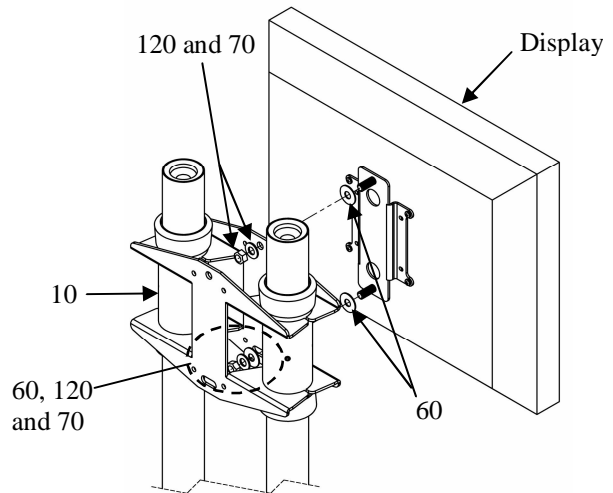

Figure 5. Mount Display
1. Place two flat nylon washers (60) over the two threaded studs on the adapter bracket (20). See Figure 5.